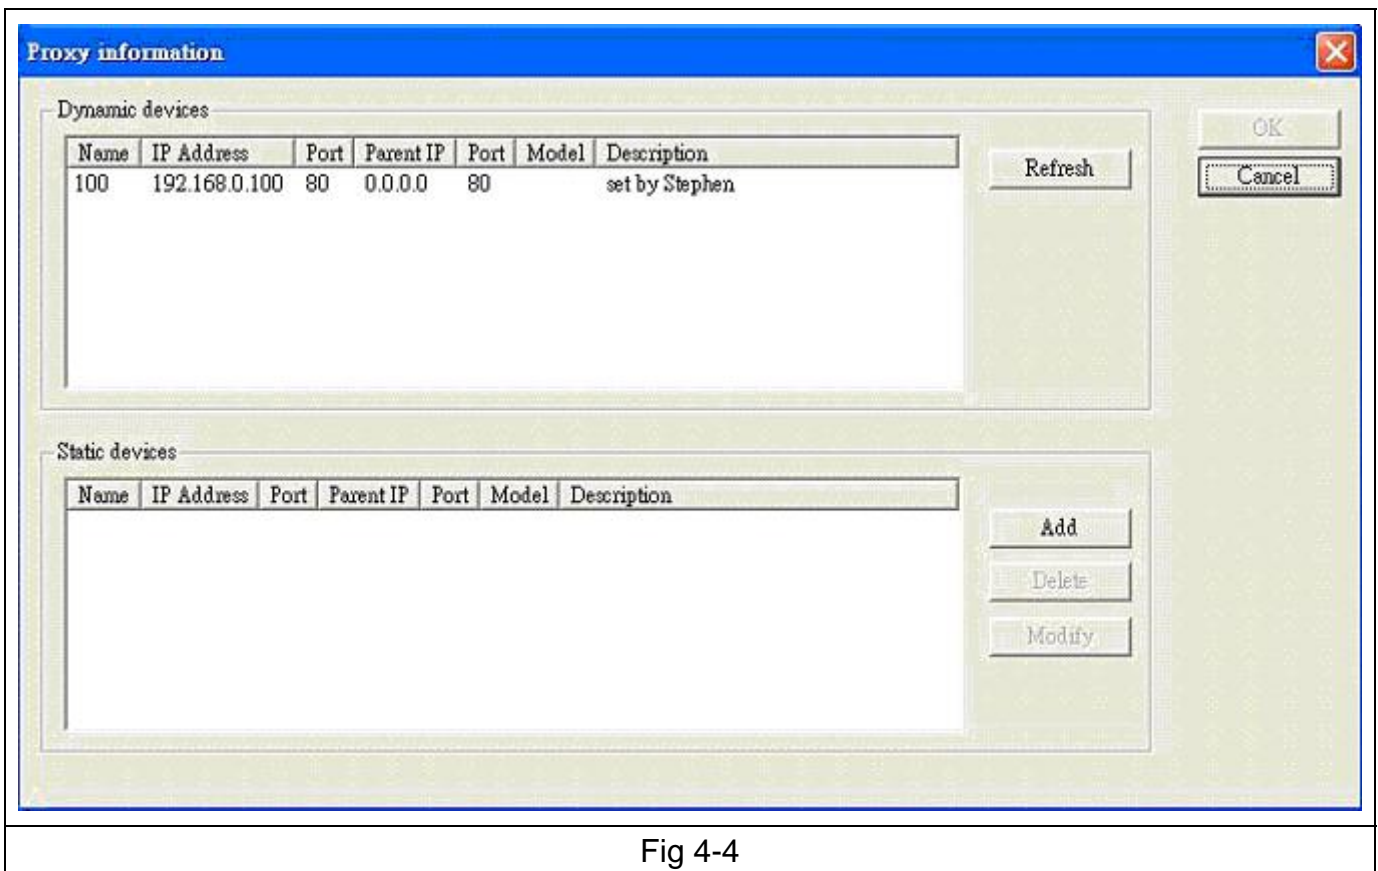

Fig 4-4
4. **Proxy Setting:** View the existing switches in this LAN , and also add/delete/modify any switch in the LAN for configuration convenience. (Fig 4-4)